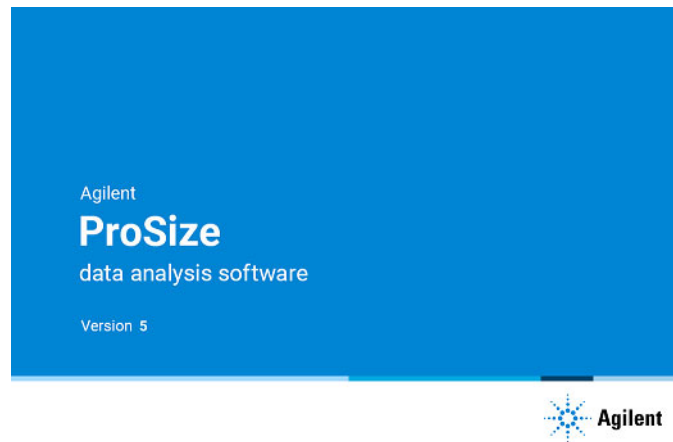

Figure 3 Splash screen displaying version information upon starting the ProSize software
- 1 In the Windows Start menu, navigate to **ProSize data analysis software**. Alternatively, create a shortcut from your desktop to launch the program. A splash screen appears showing the software version (**Figure 3**).